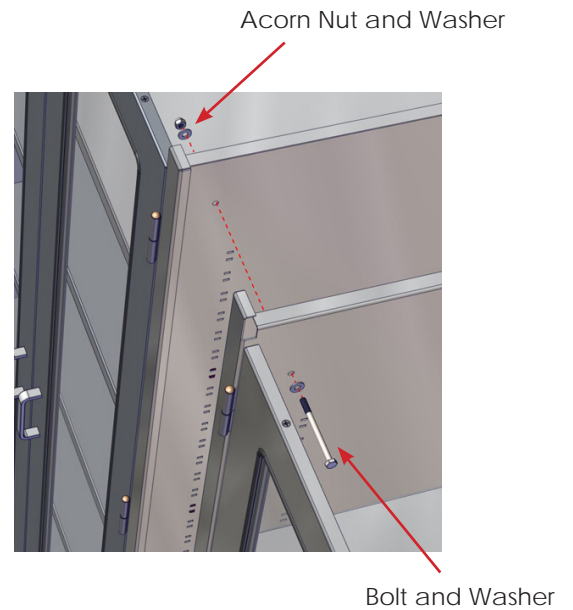

Fig. 4: Attaching Banked Cabinets/
8. Insert a 1/4" bolt and one washer through one of the top front connection holes until it protrudes from the other cabinet. Secure with the washer and acorn nut. Repeat with the center front and bottom front connection holes (Fig. 4).